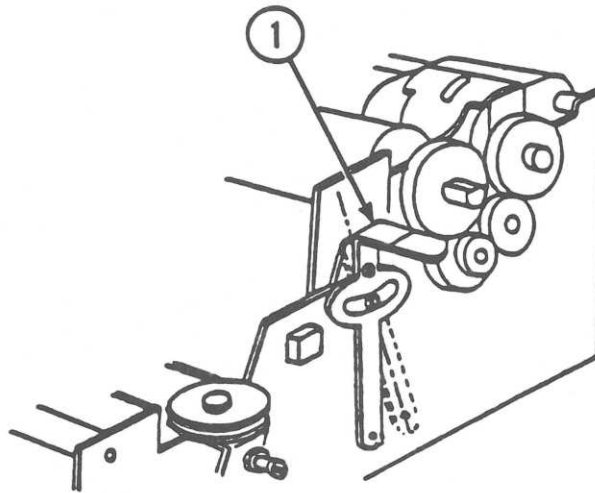

FIGURE 15
1. Push in on the head adjusting lever until it is pointing up. (See Figure 15, #1.)